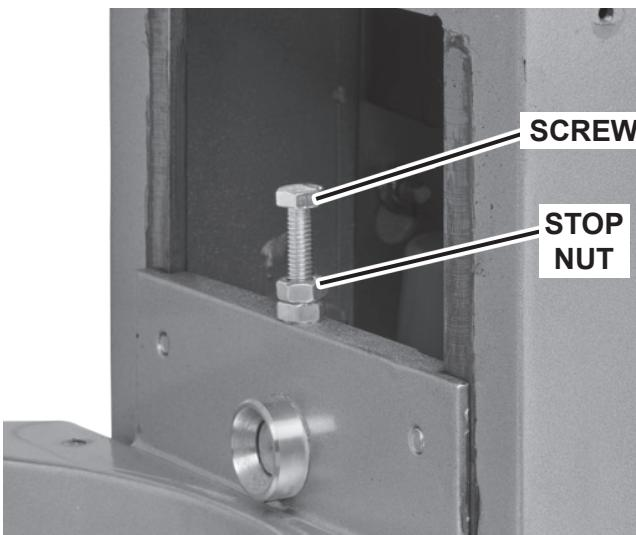

Fig. 12
- Adjust the clearance by loosening the stop nut and moving the screw (Fig. 12) clockwise to increase the clearance or counterclockwise to decrease the clearance.